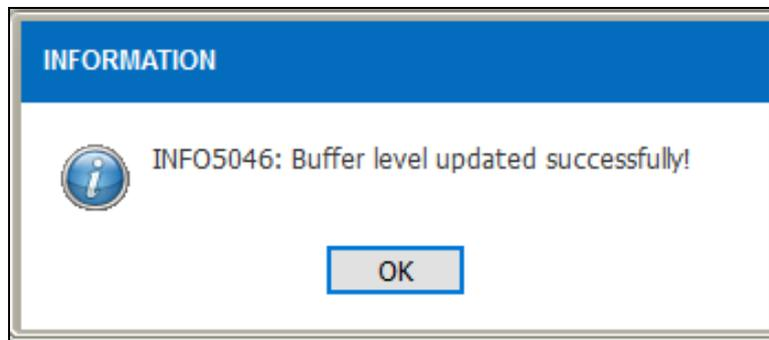

Figure 3.2-3 Save Record
- Information record will be displayed as shown in Figure 3.2-3.